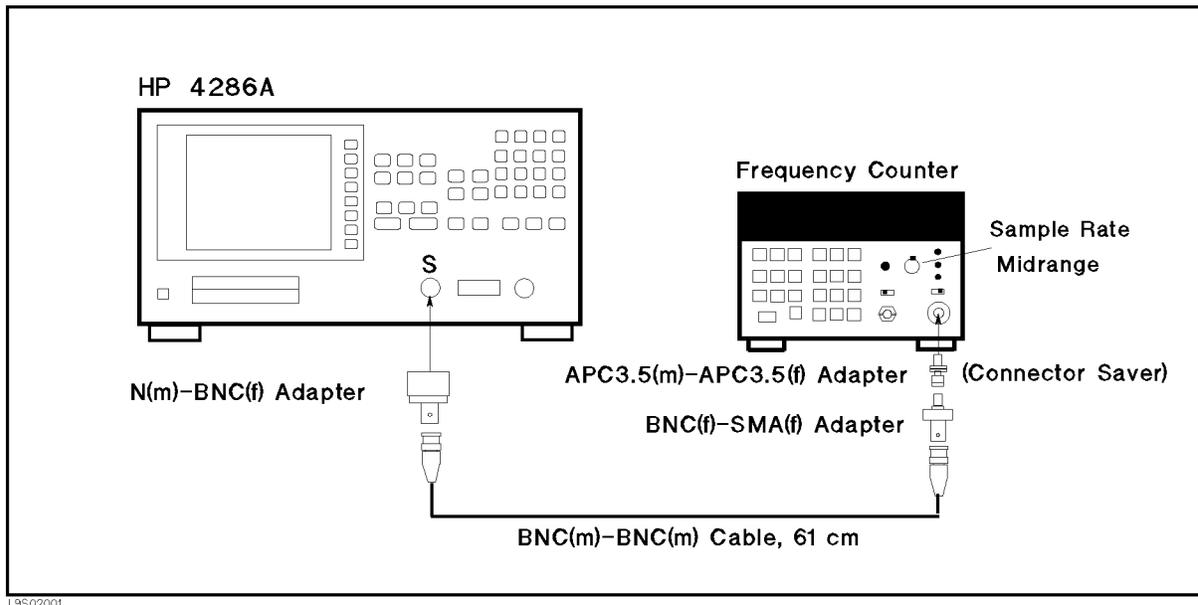

Figure 2-1. Frequency Accuracy Test Setup
1. Connect the test equipment as shown in Figure 2-1.
An APC3.5(m)-APC3.5(f) adapter is used between the BNC(f)-SMA(f) adapter and the HP 5343A's APC 3.5 Input connector to protect the HP 5343A's APC 3.5 Input connector. In Figure 2-1, the SMA connector of the BNC(f)-SMA(f) adapter is mated with the APC 3.5 connector of the "connector saver" adapter.